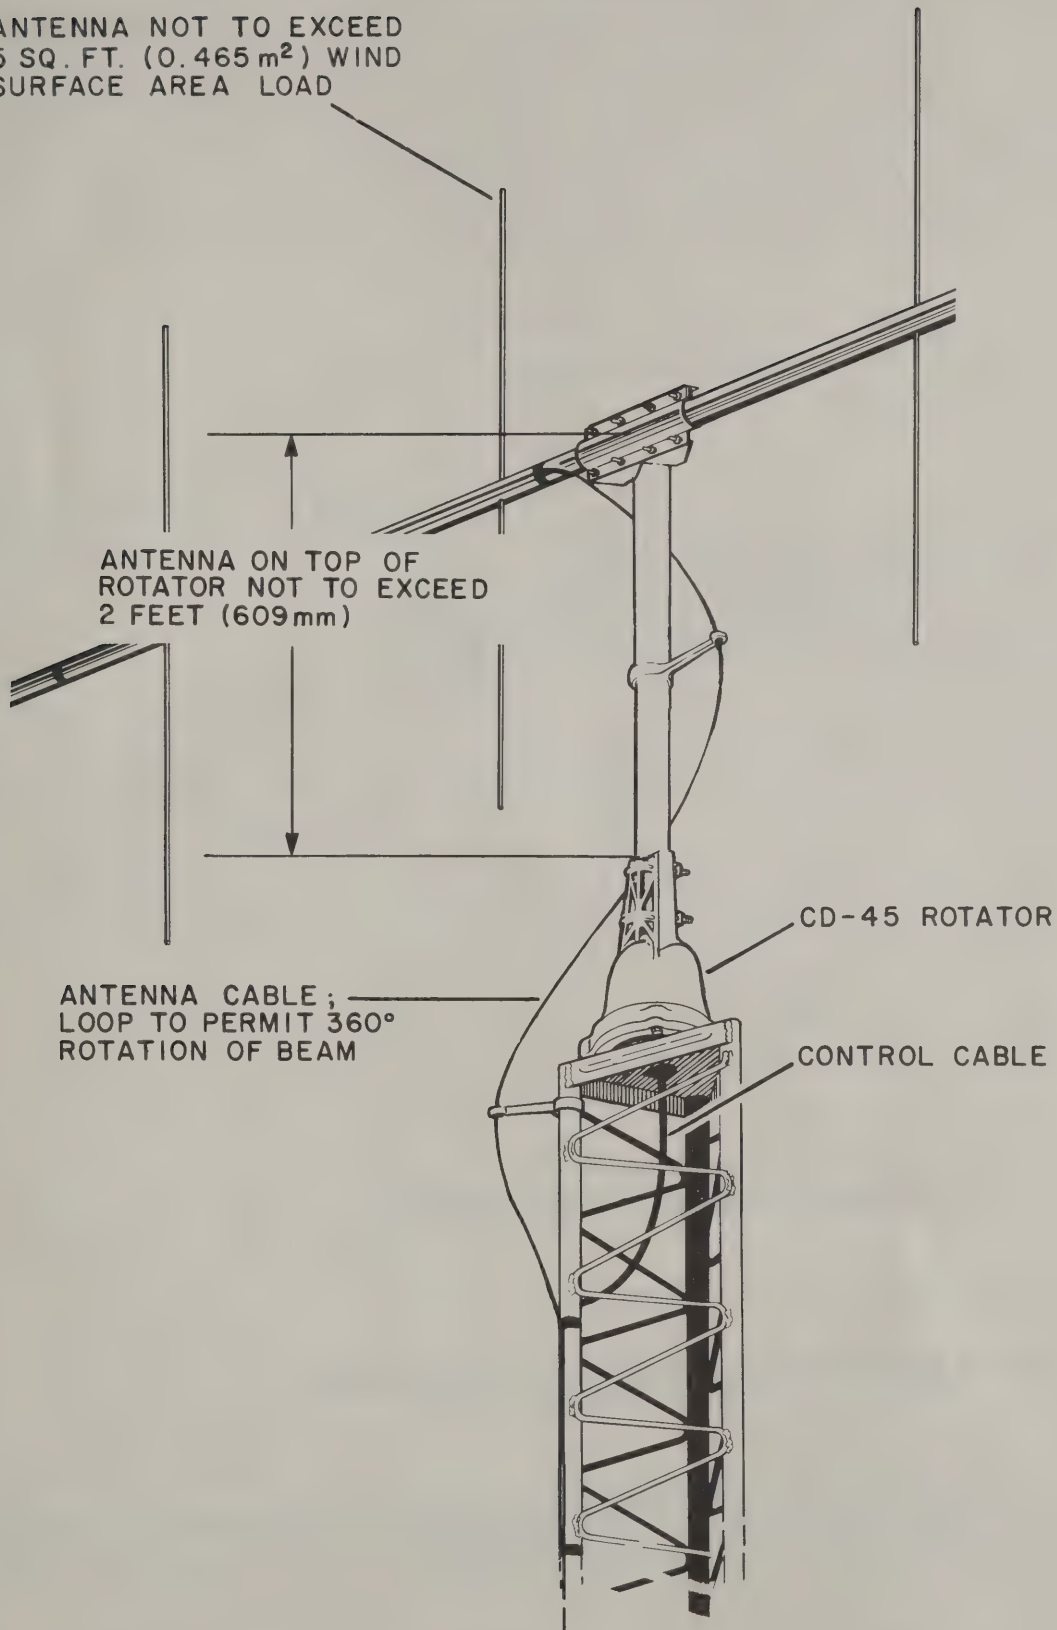

Figure 7
1. Mounting the rotator on top of a tower is similar to the mast mounting except the lower mast support is not used. (See Figure 7.)
6. Connect the antenna cable to the antenna (follow manufacturer's recommendation). Make sure you have enough slack for the 360° rotation. (The antenna rotates "S" to "E" [counterclockwise] on the first turn, therefore, slack should wrap counterclockwise around the mast.) See Figure 7.